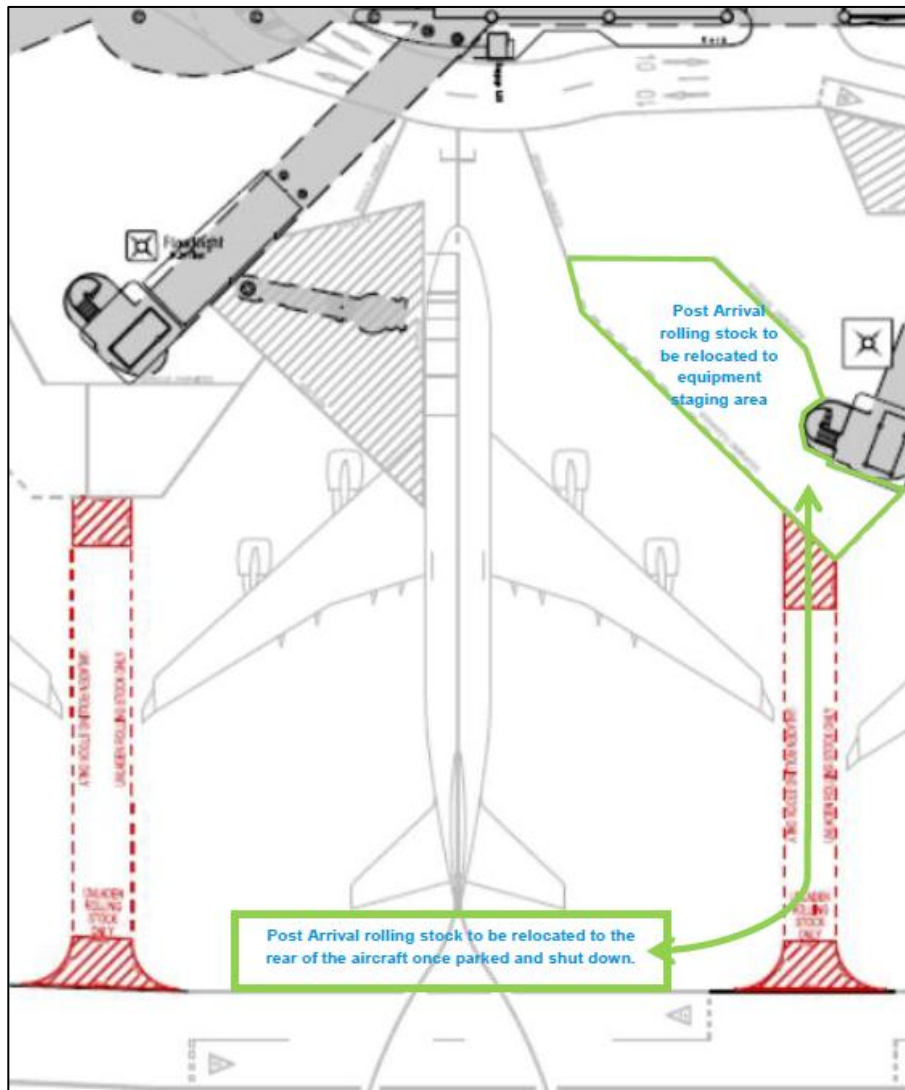

Figure 2: Post Arrival configuration
6.3 Unladen rolling stock staged between wingtips must be relocated to the rear of the aircraft following its arrival. To protect entry and egress requirements for hydrant refuelling vehicles, Ground Handlers must ensure a 2 metre gap is maintained between rolling stock staged at the rear of the aircraft and the BWS markings for the adjacent bay (See Figure 2).
6.4 Rolling stock may also be relocated to marked Equipment Staging/Storage Areas at the head of stand following the arrival of the aircraft onto bay (See Figure 2). Where rolling stock is to be re-positioned within Equipment Staging/Storage Areas, required GSE such as JCPL and belt loaders must be permitted to vacate the Equipment Staging/Storage Area prior to relocating rolling stock.
- 7.7 Access and Egress requirements of Refuelling Hydrant Vehicles are expressly protected under this SOP by the designated keep clear areas indicated in Figure 2. Refuelling vehicles are permitted to use the empty BWS area and keep clear areas to access the aircraft for refuelling purposes.